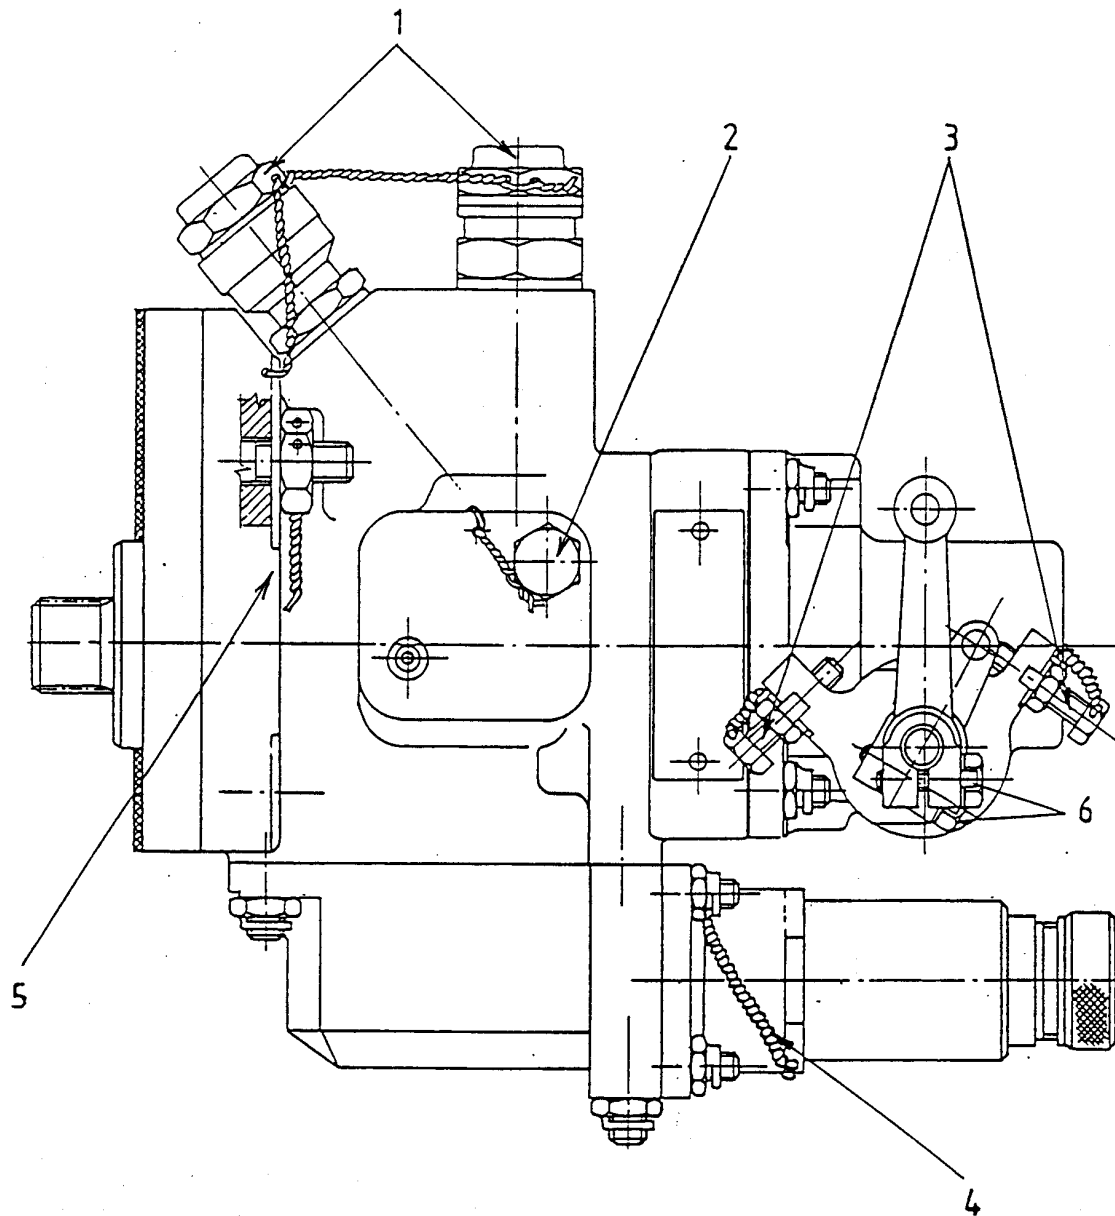
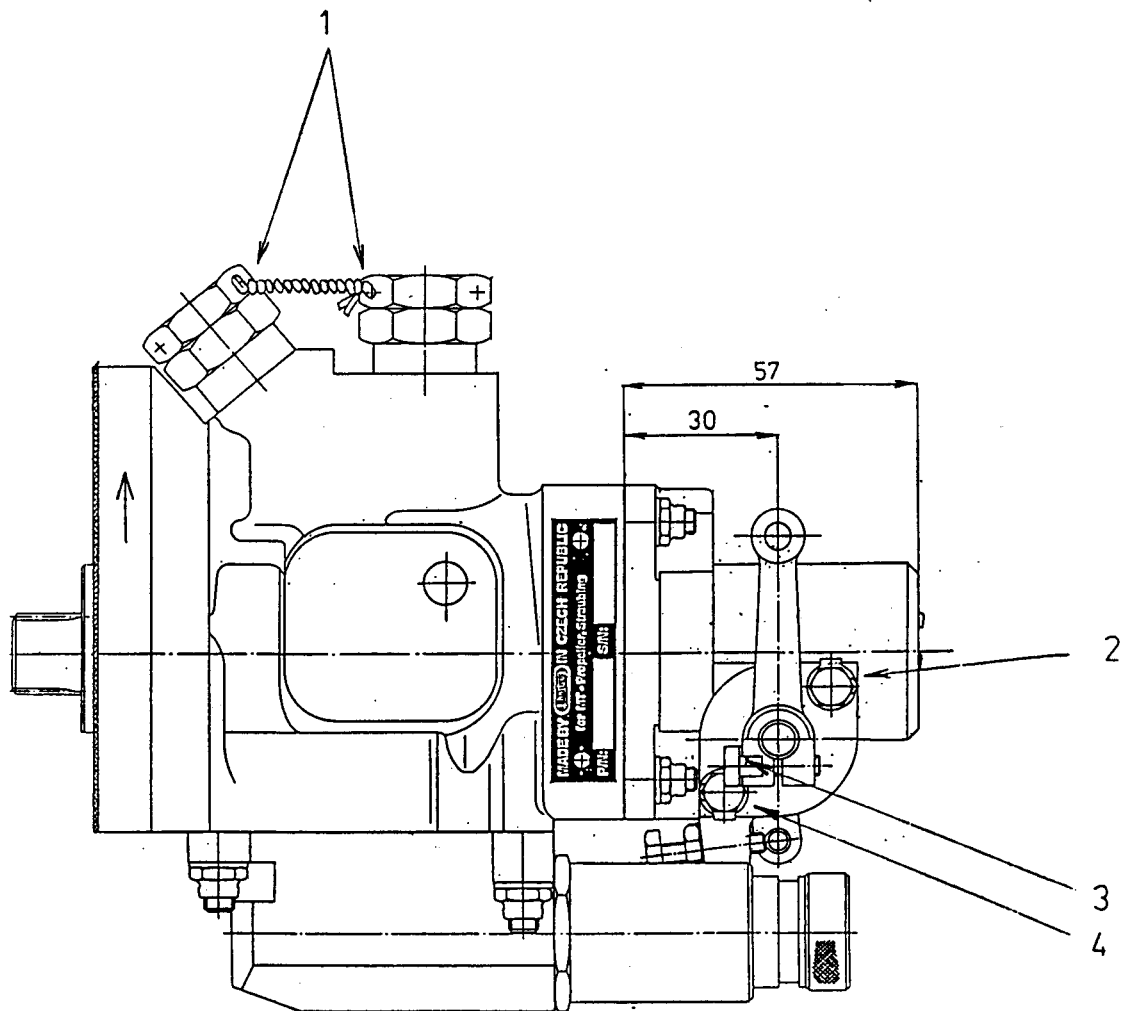

Fig. 13 Inspection of governor safety device
Fig. 13.1 Inspection of governor safety device
15.9 Secure the relief valve with safety wire 0,63mm (0,025inch). See fig. 13/fig13.1 and 13a./fig.13.a1